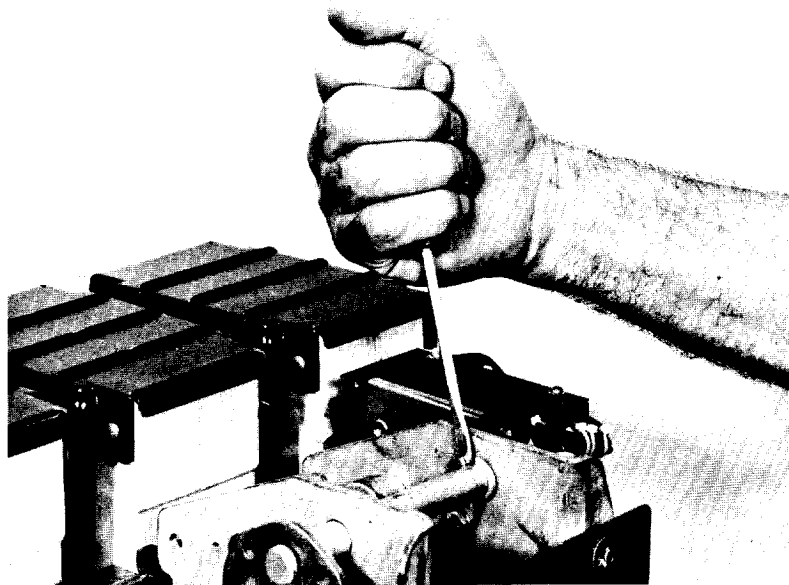

FIG. 4
4. Using a screwdriver and a pair of pliers remove and discard two squeeze rings from the spring pin as shown in figures 4, 5, and 6.